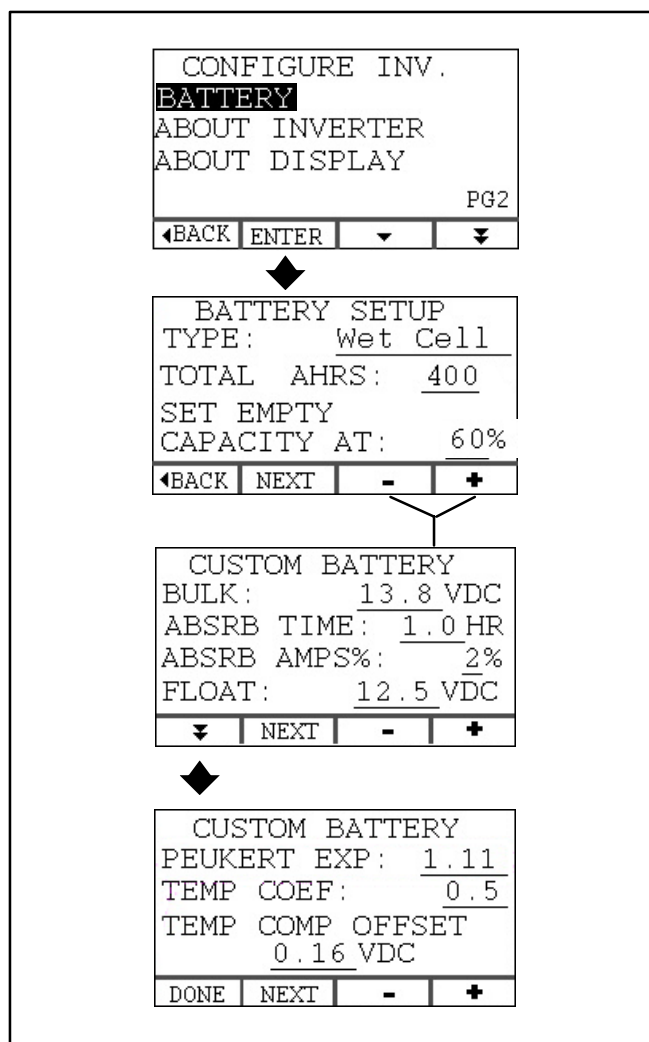

FIGURE 40. CUSTOM BATTERY PARAMETERS
2. Select BATTERY on CONFIGURE INV. PG2 and press ENTER (Figure 40). See Page 18 for instructions on how to get to the CONFIGURE screen.
6. To restore the Onan preset battery configuration, go back to the BATTERY SETUP screen (second screen in Figure 40) and pick Wet Cell, Gel #1, Gel #2, or AGM, as appropriate.